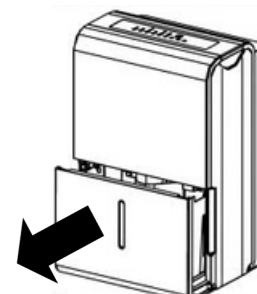
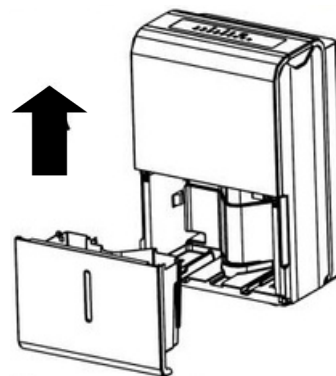

Fig. 3
Fig. 4
3.Grip the left and right handles of the drain bucket securely and carefully pull out the drain bucket. Do not put the drain bucket on the floor because the bottom of the bucket is not even which may cause the water to spill. See Fig.3 and Fig. 4.